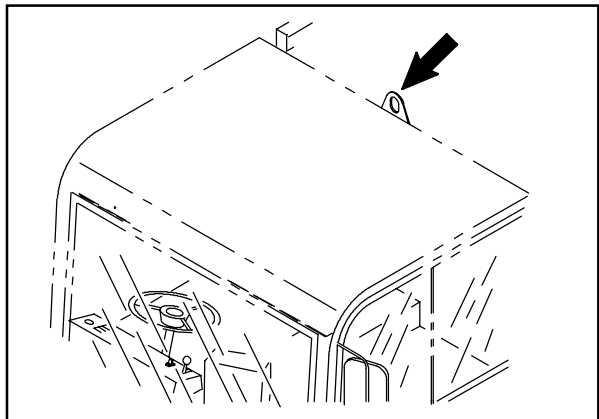

FIG. 22
35. Hook the overhead hoist chain to the lug located on the cab. Refer to Fig. 22.